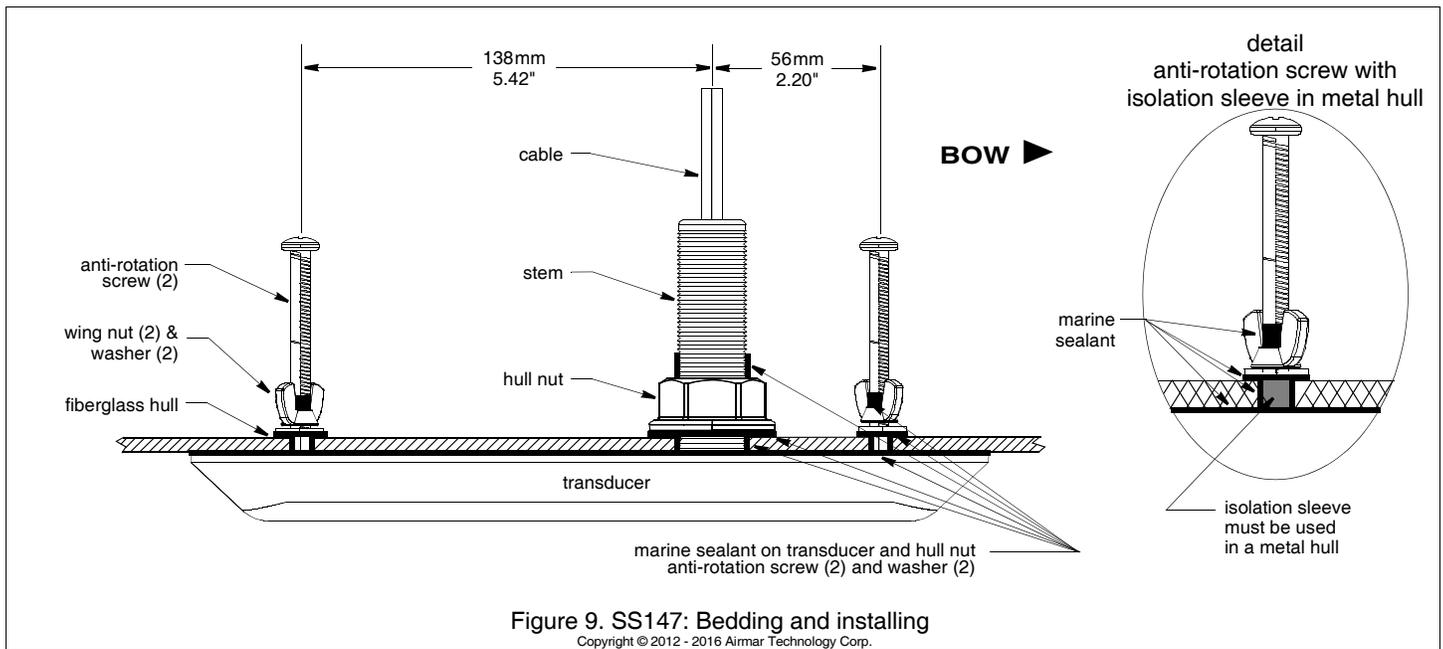

Figure 9. SS147: Bedding and installing
1. Be sure the holes for the anti-rotation screws are oriented so the one closest to the stem is facing forward toward the bow (see Figure 9). Using a straight edge held parallel to the centerline (keel) of the boat, mark the centers of the three holes.
1. Apply a 2mm (1/16") thick layer of marine sealant to the surface of the transducer that will contact the hull and up the stem (see Figure 9). *The sealant must extend 6mm (1/4") higher than the combined thickness of the hull and hull nut.* This will ensure there is marine sealant in the threads to seal the hull and hold the hull nut securely in place.
2. Push the stem of the transducer through the mounting hole (see Figure 9). Seat the transducer firmly against the hull. Screw the hull nut in place and tighten it with slip-joint pliers. *Do not over-tighten.*